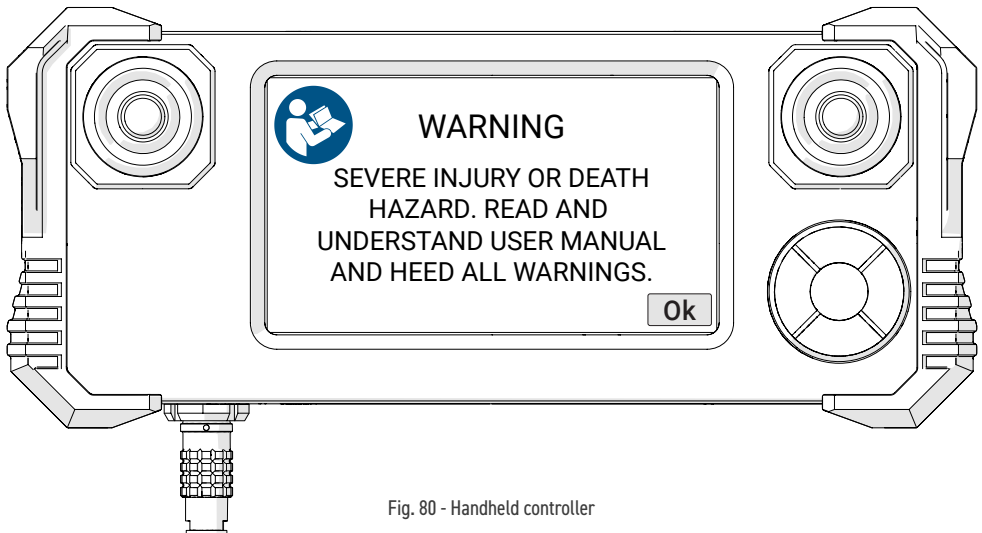

Fig. 80 - Handheld controller
5. A warning message will display on the handheld controller when power has been activated. Once the dangers of using the **TERAX** are recognized and understood by reading this user manual, touch **Ok** to acknowledge the warning (Fig. 80).